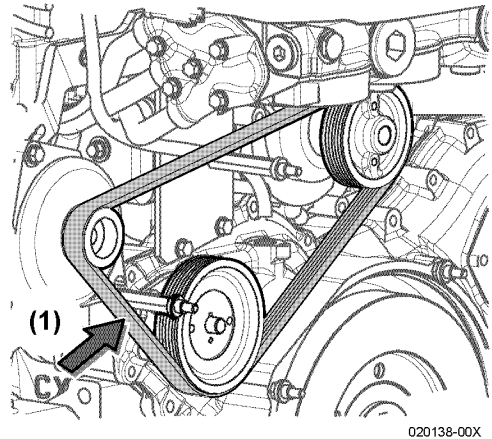

Figure 4
2. Check the belt by pushing on the middle of the belt (**Figure 4, (1)**) with your finger. With moderate force, the belt should deflect 5 to 6 mm (approximately 1/4 in.).